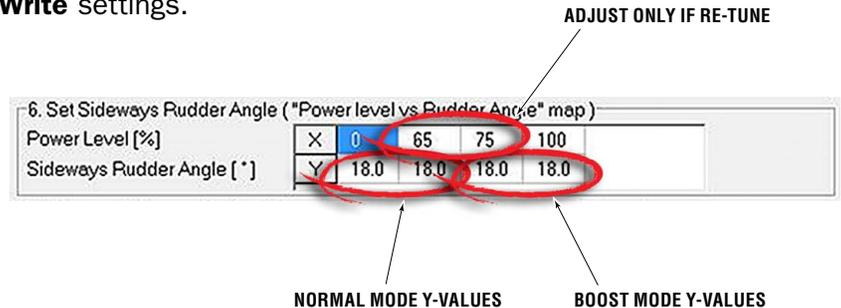

Figure B-16. Power Level vs Rudder Angle.
If you adjusted the power levels in STEP 8 and are now performing a re-tune, adjust the X-values in the table as follows (see figure B-16):
- a) If the boat rotates clockwise as it starts to move, decrease both *normal mode Y-values* (see figure B-16) by up to two units. If the boat rotates counterclockwise, increase the values.